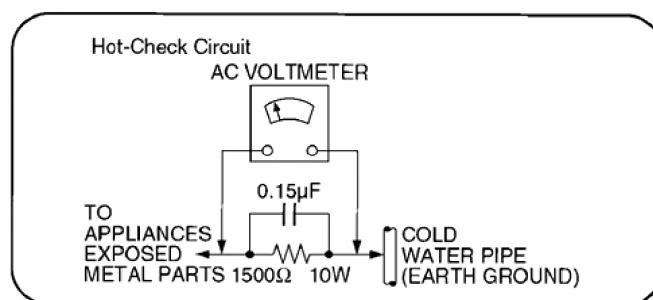

Figure 1
2. Connect a 1.5 k Ω , 10 watts resistor, in parallel with a 0.15 μ F capacitor, between each exposed metallic part on the set and a good earth ground such as a water pipe, as shown in Figure 1.